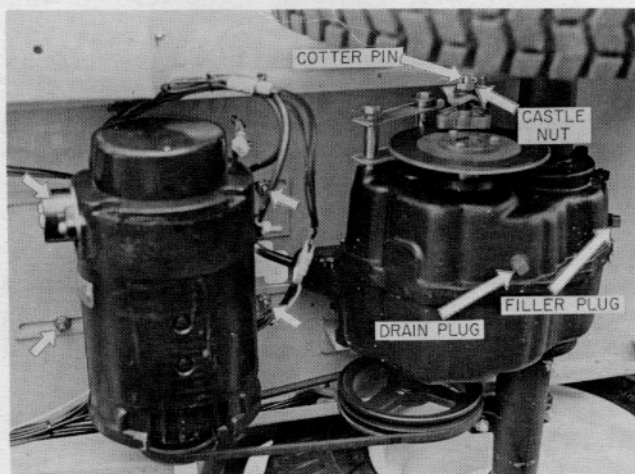

Figure 12. Brake, Transaxle, and Motor Mounting
After 100 operating hours, the transaxle filler plug should be removed and the fluid level checked (See Figure 12). The oil level should be to the bottom edge of the filler hole. If necessary, replenish with approved axle fluid only, i.e., SAE EP90.
1. Loosen four carriage bolts holding motor plate. Insert a 1/4" wedge under the forward part of the motor plate, and retighten bolts finger tight (See Figure 12).
A fully depressed brake pedal or an engaged parking brake should prevent the tractor from rolling on average hillsides. If the brake does not perform satisfactorily, the following adjustment may be made: (See Figure 12).